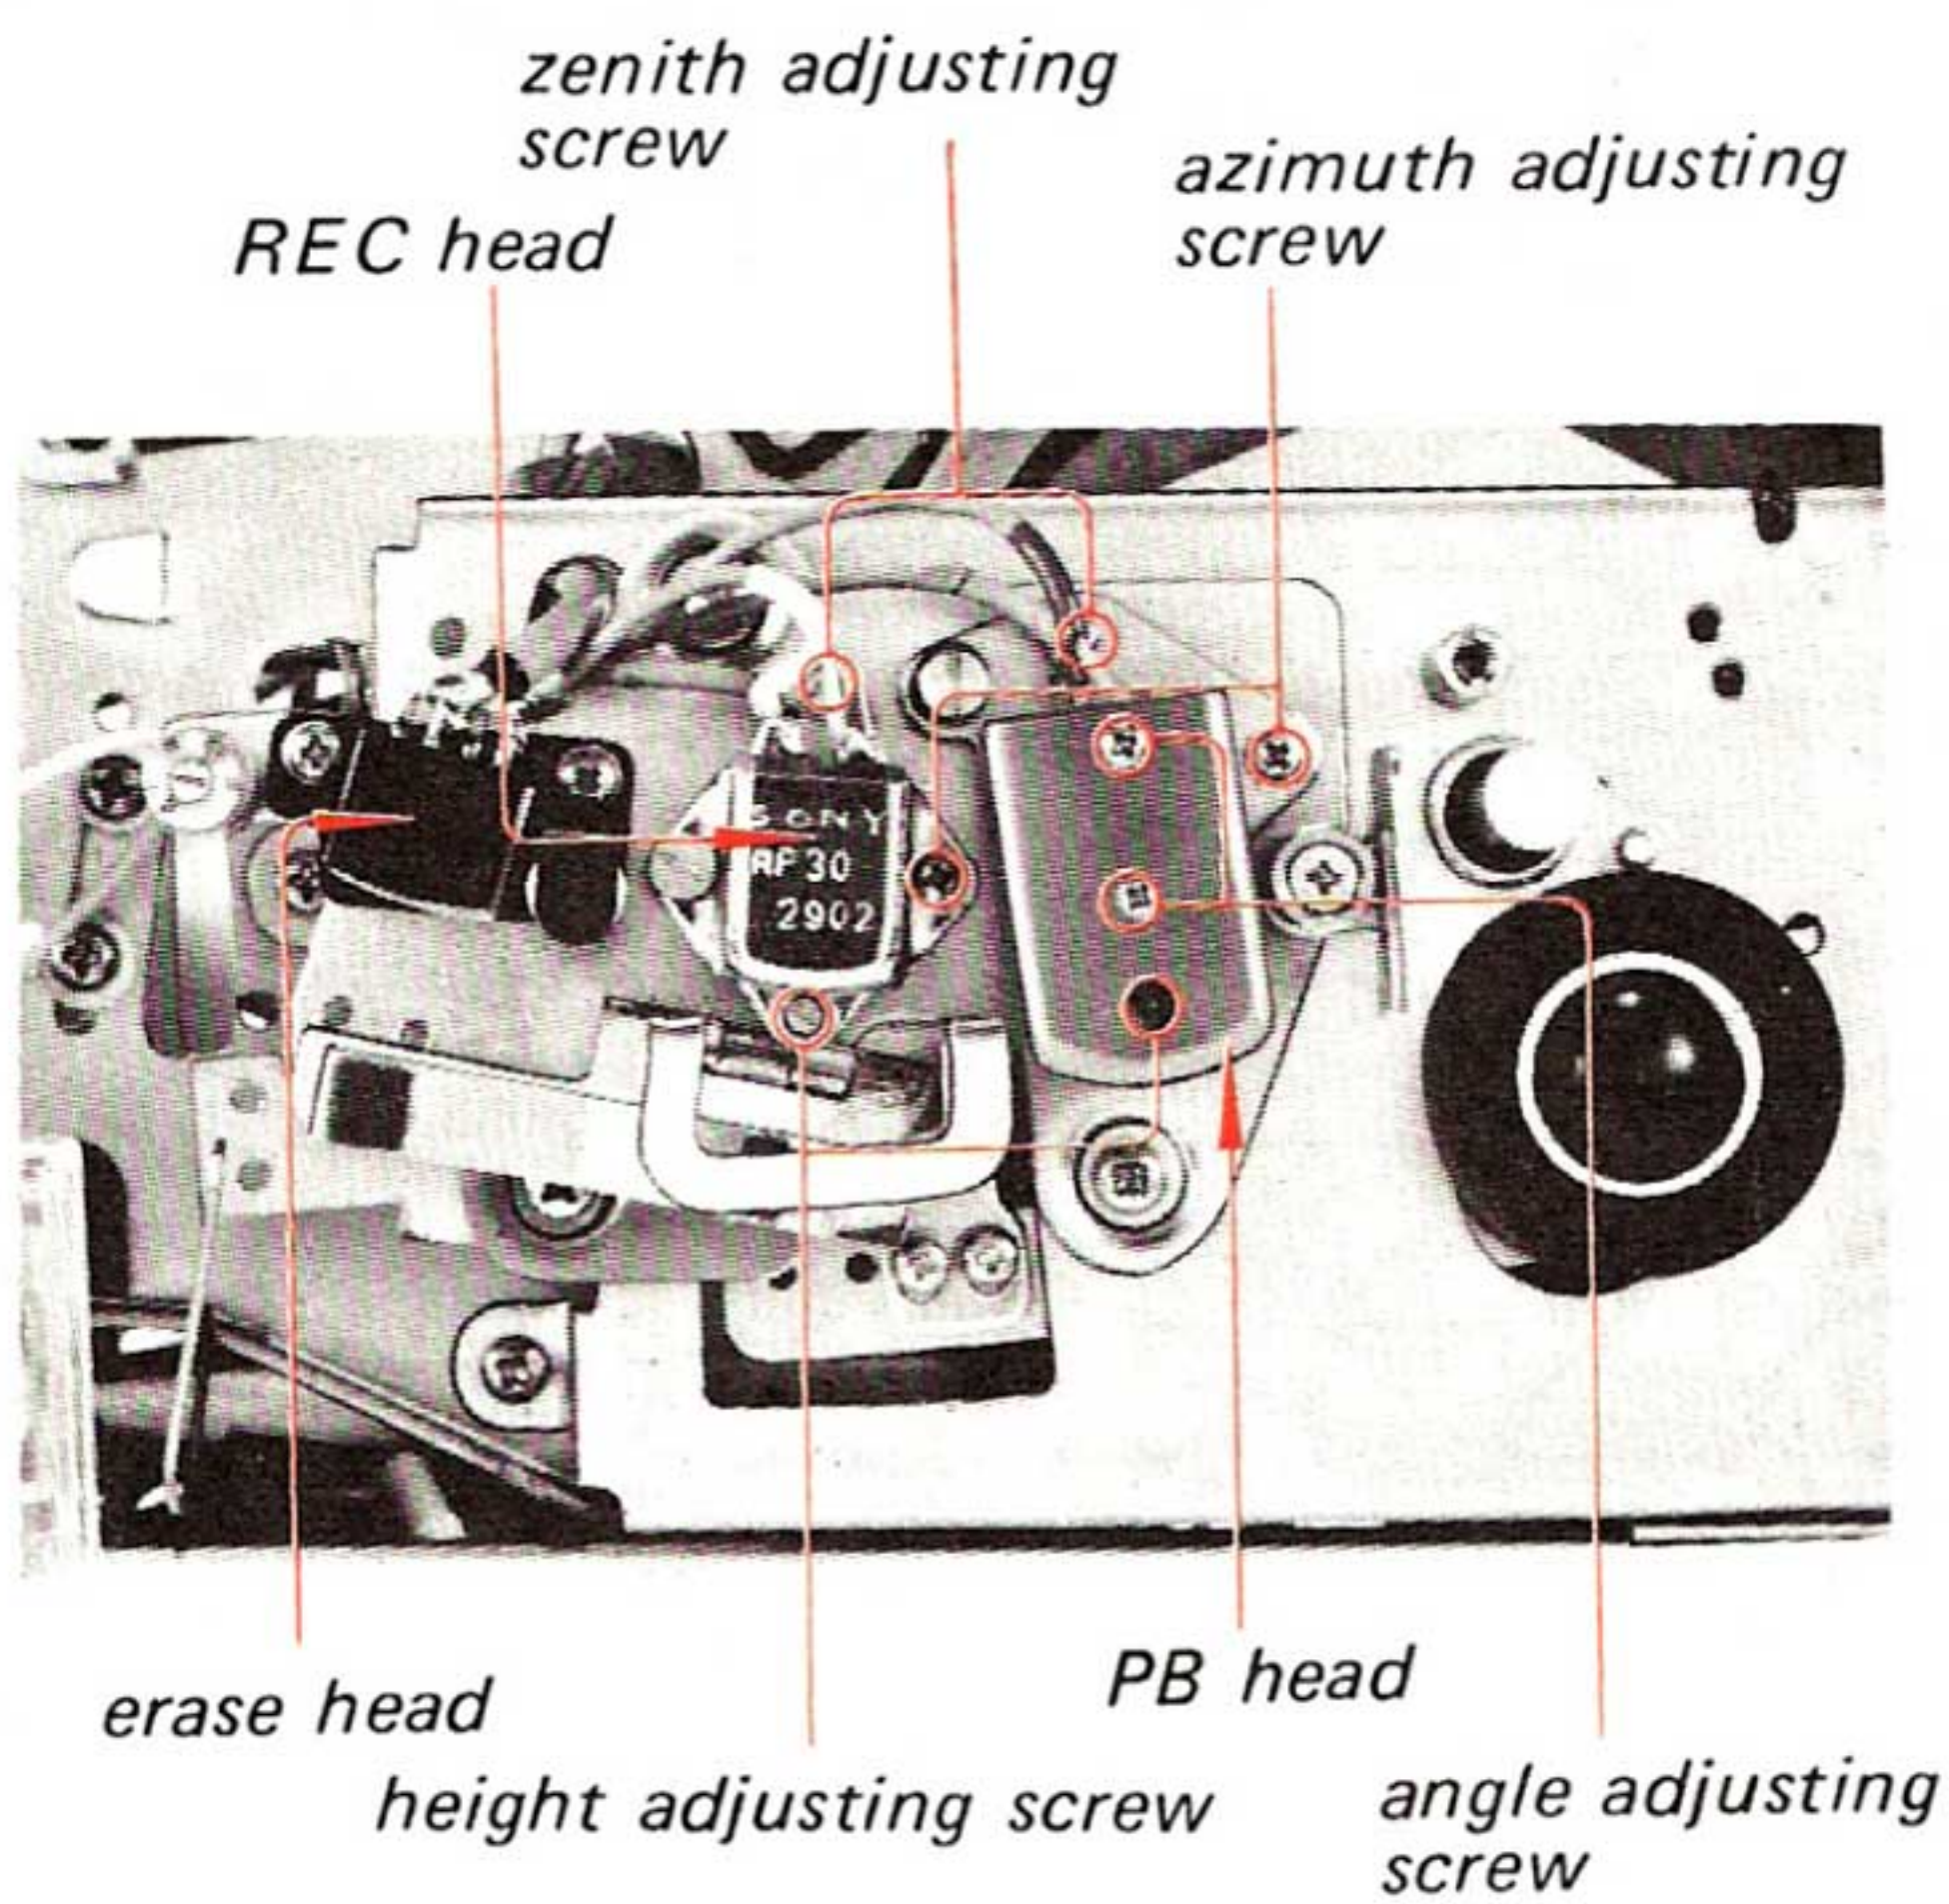

Fig. 3-2-10. Adjusting parts location for the items 4, 8 and 9
- Step 3. Adjust the PB head azimuth adjusting screw to obtain a maximum meter reading. (See Fig. 3-2-10.)
Step 5. Turn the zenith adjusting screw by the same turns in same direction as in the step 4. (See Fig. 3-2-10.)